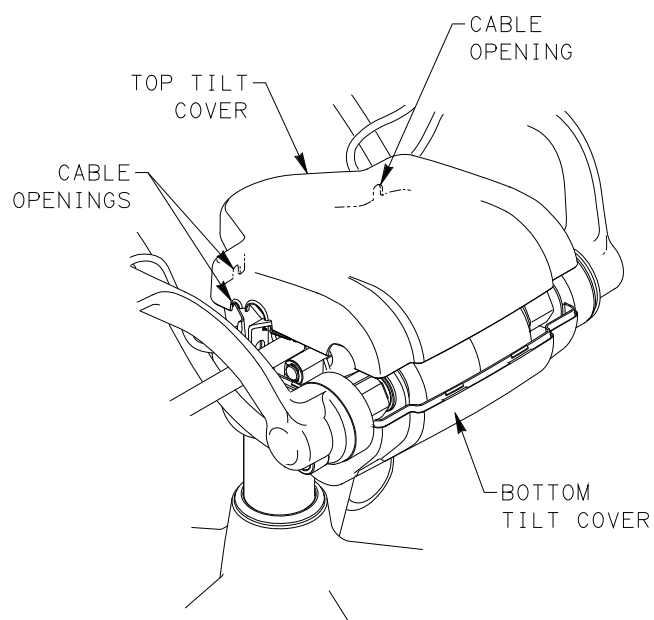

FIGURE 4
13. REPOSITION TOP TILT COVER OVER BOTTOM TILT COVER. MAKING SURE ALL CABLES ARE PROPERLY ROUTED THROUGH CABLE OPENINGS, SNAP COVER HALVES TOGETHER. SEE FIGURE 4.